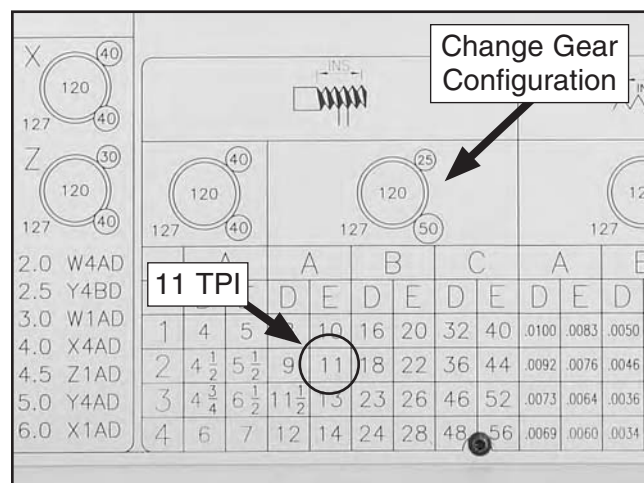

Figure 83. Setup configuration displayed on the inch threading chart for cutting threads of 11 TPI.
2. Locate "11" in the inch threading chart on the face of the headstock (see **Figure 83**).